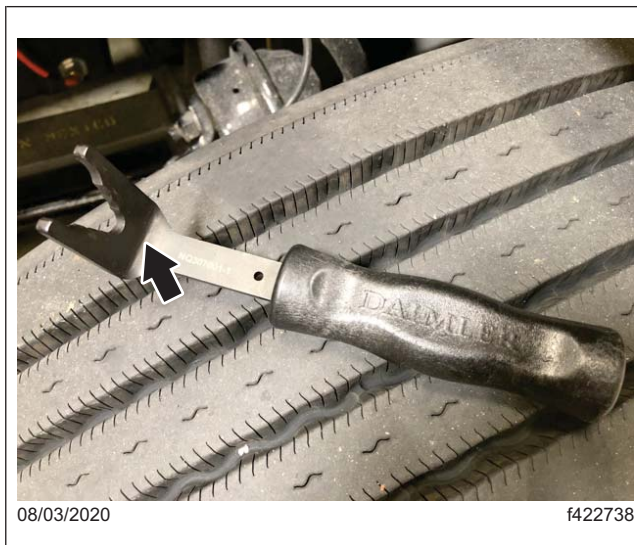
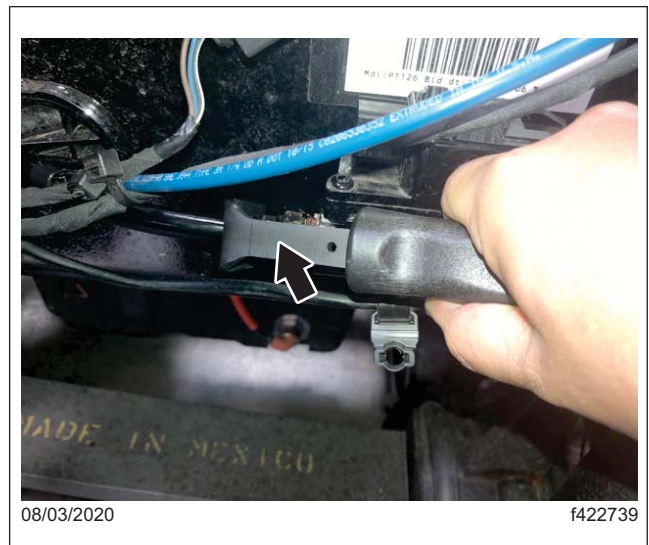

Fig. 5, Special Tool (NQ307001-1)
Fig. 6, Disconnecting the Plastic Air Line
4. Use the special tool (NQ307001-1), supplied in the kit, to disconnect the plastic air line from the modulator valve. See **Fig. 5** and **Fig. 6**.